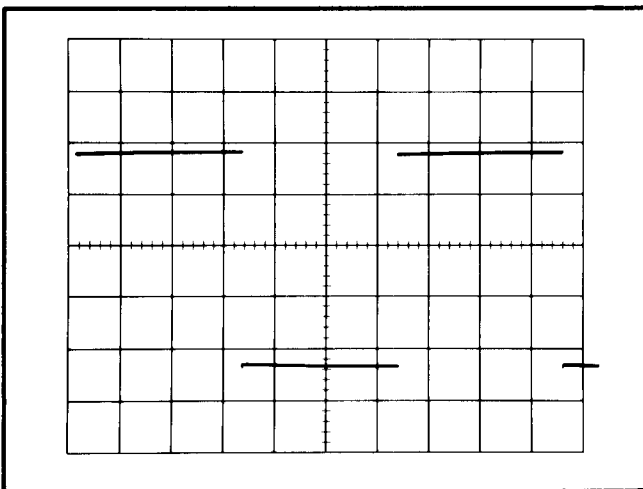

Fig. 6-2. Waveform obtained for each VOLTS/DIV switch setting when compensation is correct.
- g. Check—For a waveform having not more than 4% of rolloff or overshoot. See Fig. 6-2.